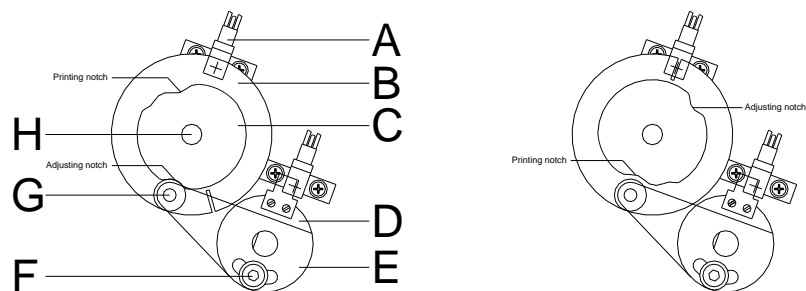

Figure 52
The sketch (see Figure 52) shows from behind the shaft of ribbon save motor (H) with pressure curve (C) and disc (B). The bearing ring (D) with the attached sole plate (E) is underneath.
7. Loosen the hex socket head screw (F) about one turn until the sole plate (E) with the attached ball bearing (G) is freely mobile.
9. Press the sole plate (E) with the ball bearing (G) in the adjusting notch of the pressure curve. Take care of not to have too much play. Fasten the hex socket head screw (F).
13. Turn by hand the motor shaft with the pressure curve and disk from the left to the right until a slight resistance can be noticed. If the slot in the disk can be moved slightly to the right and to the left out of the photocell (A), then the pressure curve is adjusted correctly.